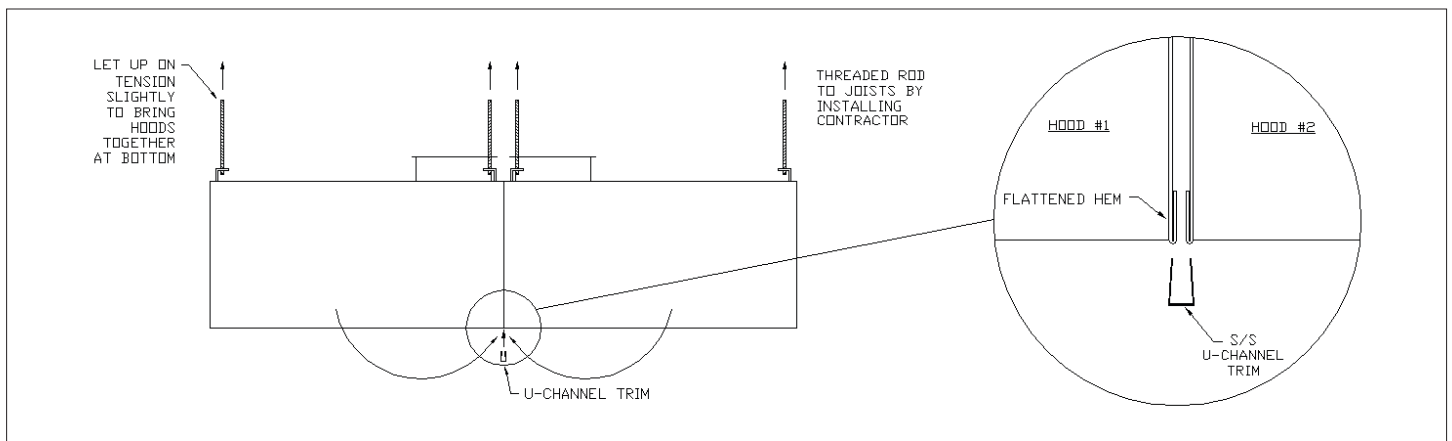

FIGURE 6
2. Adjust tension on hanging rods to position hoods so they fit flush with each other as shown in **Figure 6**.
5. Run a bead $\geq 1/8"$ of silicone sealant on the lower horizontal seam between the two hoods. Slip the U-channel over the seam as shown in **Figure 6**. Tape can be used to hold the U-channel in place until the silicone cures.